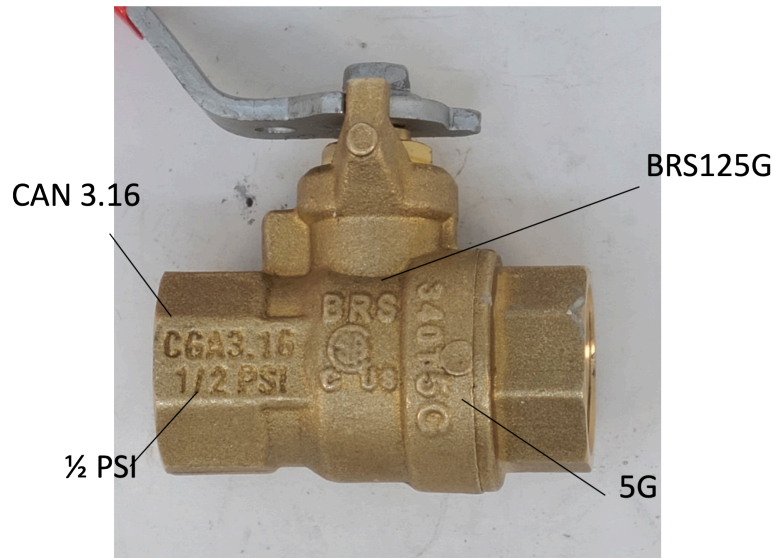

Figure 1. Valve markings
- Figure 1. “Valve markings” by Rod Lidstone is licensed under a CC BY-NC-SA licence (<https://creativecommons.org/licenses/by-nc-sa/4.0/deed.en>).